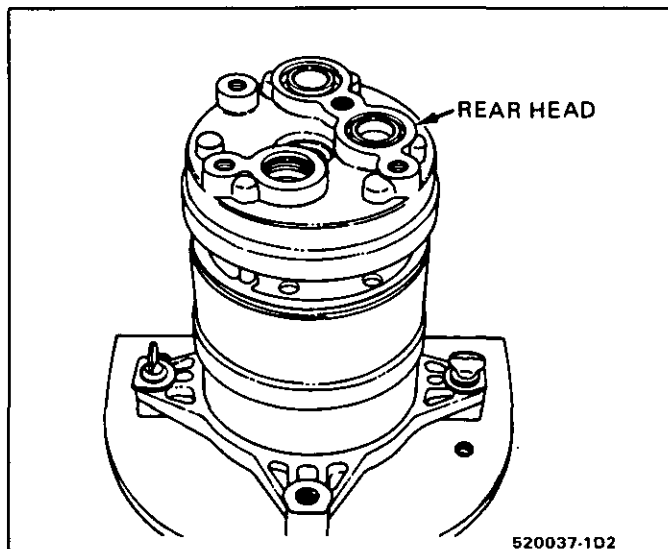
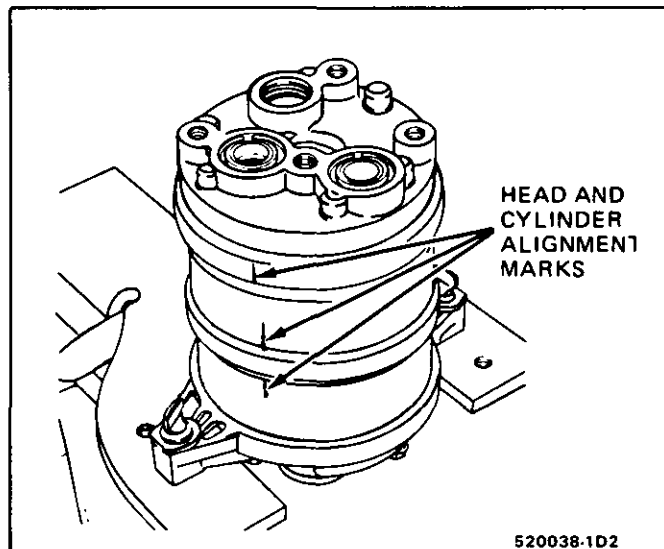

Fig. 36 Rear Head Assembled Onto Assembly Guide Pins
Fig. 37 Rear Head Installed In Aligned Position
6. Carefully assemble rear head onto rear guide pins making sure that the ends of the guide pins insert into the corresponding threaded holes in the rear head (Fig. 36). If guide pins are properly engaged in the through bolt holes in the rear head, the head will not be able to be rotated and will lower "in-line" into position on the rear of the cylinder. Alignment mark on rear head should align with cylinder marks (Fig. 37).